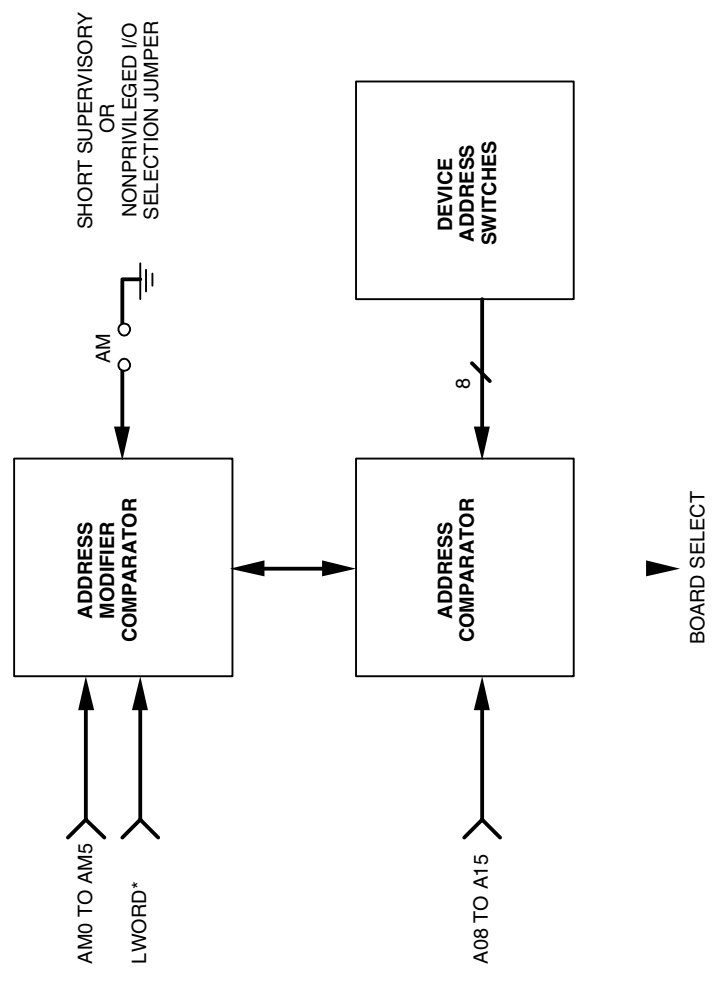

Figure 2-2 Device Address Selection
The VMIVME-6015 Board is designed with address decode logic that allows the user to select a board jumper address within the short I/O memory address map. An 8-bit DIP switch is designed to provide inputs to the address comparator as shown in Figure 2-2 on page 22. A jumper (AM) is provided, as shown in Figure 2-2, that gives the user the option of selecting short supervisory or nonprivileged I/O transfers.